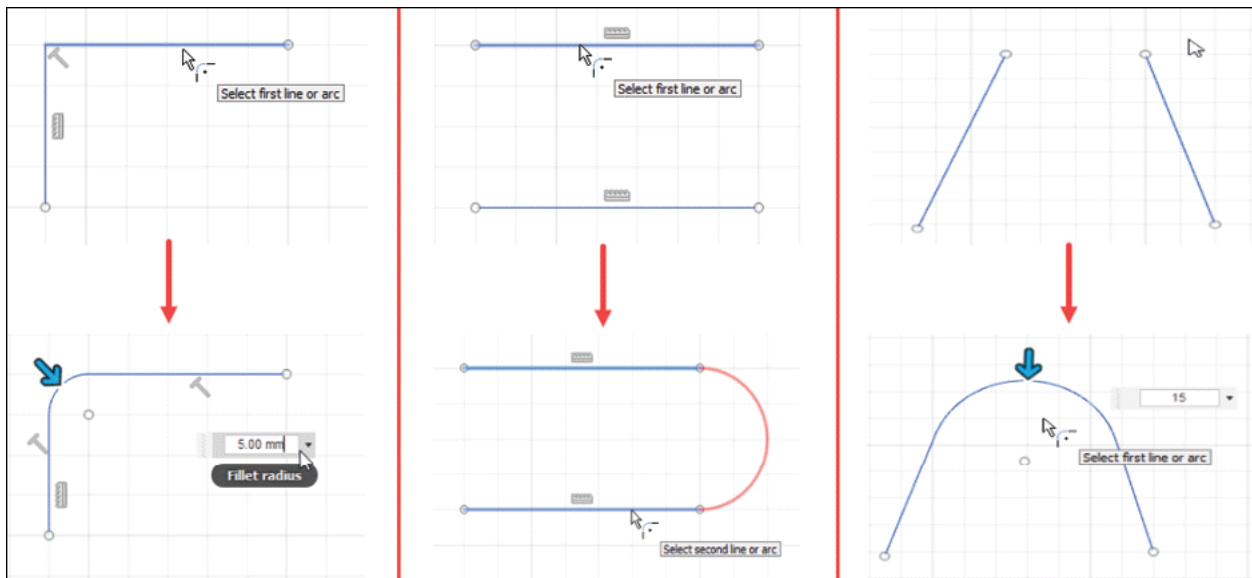

Figure-67. Creation of fillet
- Enter the value of radius in floating window; refer to Figure-67. The fillet will be created.